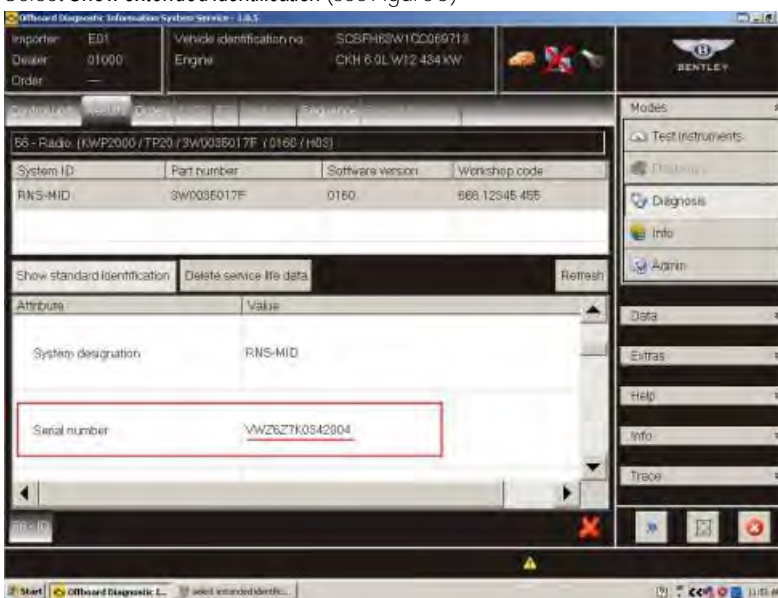

Figure 6
8. Scroll down to display the required 14 digit *Serial number* (CRIN) (see Figure 6)